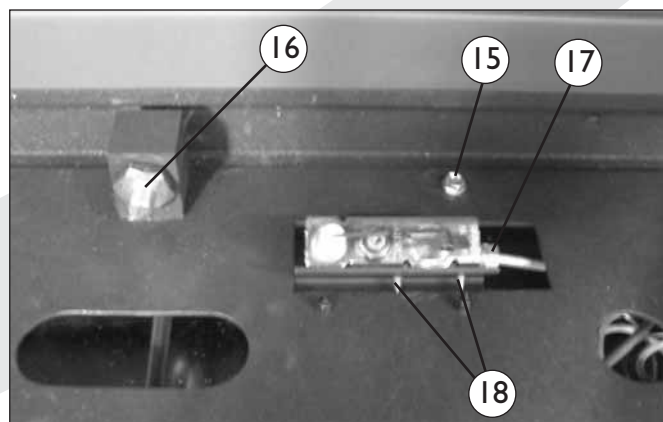

Fig. 18a
- Remove the burner mounting plate by unscrewing the self-tapping screws (15), (fig. 18a).
2. **Main burner jet** (fig. 18a)
3. **Oxypilot** (fig. 18a)